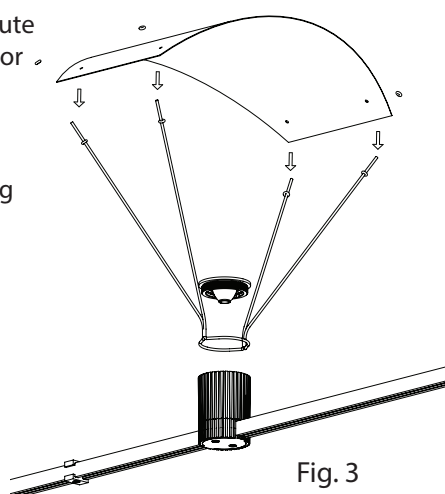

Fig. 3
2. Bend the **Parachute Reflector** and pass each hole over an arm. (Fig. 3)